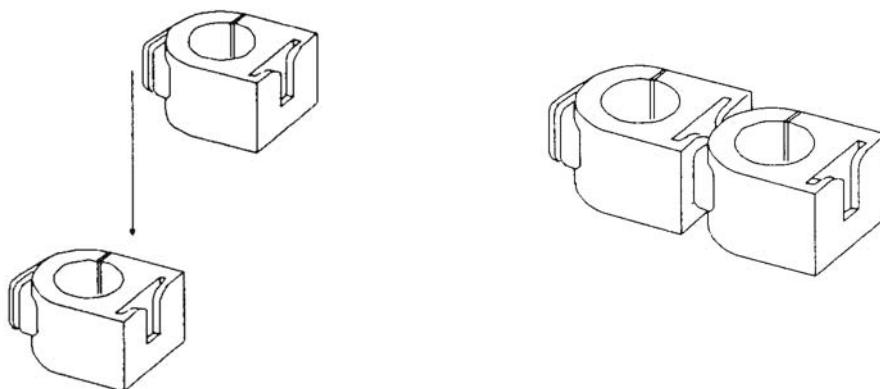

Figure 8: To attach a second electrode holder
1. Align the flange of the second electrode holder with the slot of the first holder (Figure 8).